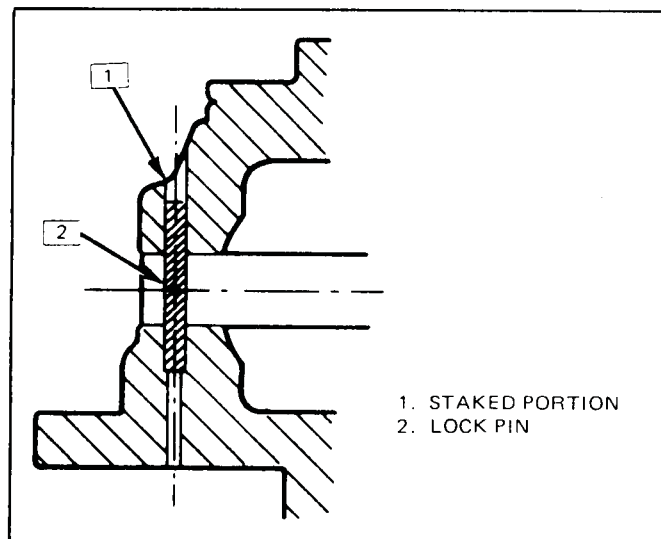

Figure 7A-84 Lock Pin Installed
10. Install the output gear in the converter housing with the bearing race on the exposed bearing. Place J-35284-1 bridge assembly on the converter housing as shown in Figure 7A-103. Loosen thumb screw so that J-35284-8 gage pin rests on the output shaft bearing race. Tighten the thumb screw. Select the appropriate output gear bearing shim according to the remaining gap in the gage pin.